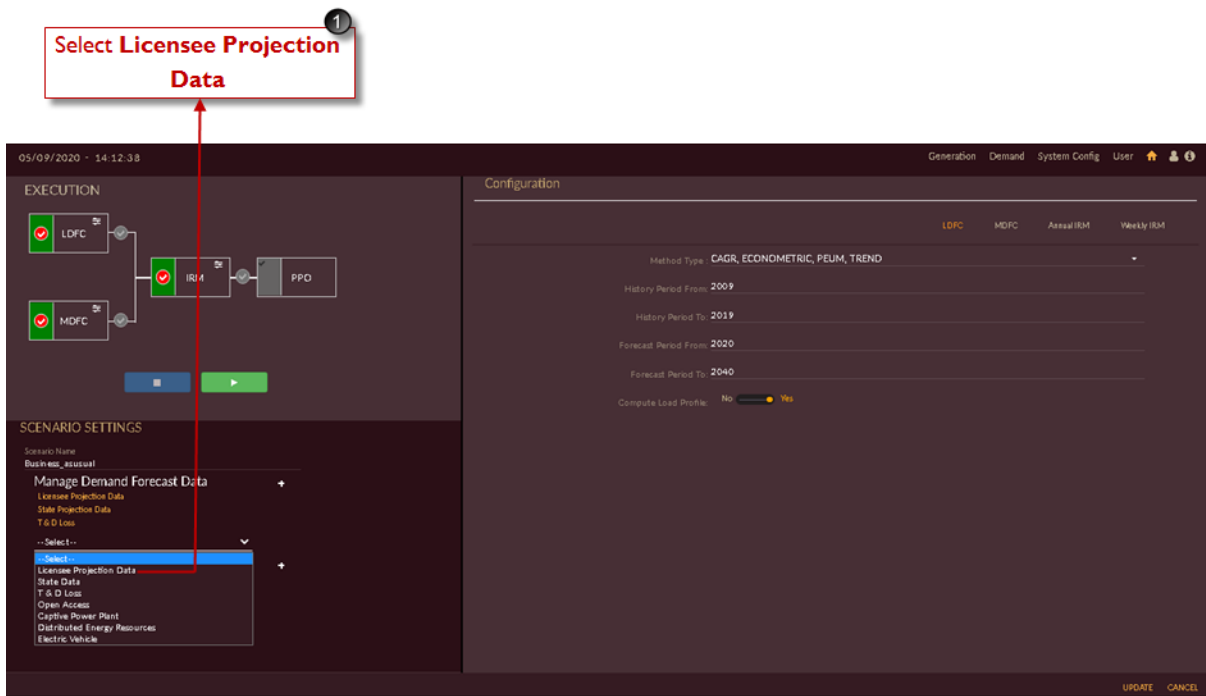

Figure 68. Manage Licensee Projection Data
- I. Click on **Manage Demand Forecast Data** **+** icon and select **Licensee projection data** from the drop-down list as shown in Figure 68.